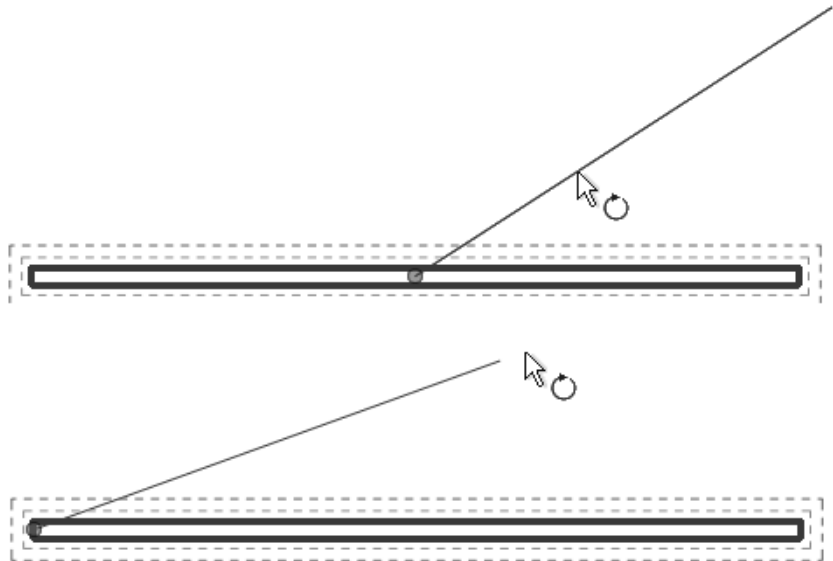

**Figure 2–93**
5. Where do you change the type for a selected plumbing fixture, as shown in Figure 2–93?